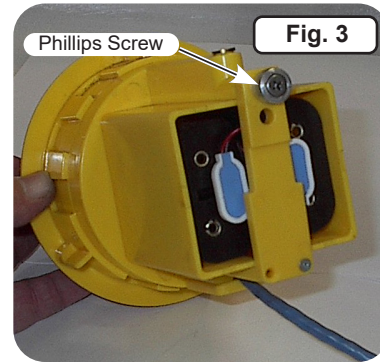

Fig. 3
2. Remove the Main End cap. Using a Phillips screwdriver, loosen the screw and swing the plastic bar to the side to gain access to battery packs [Figure 3 & 4].